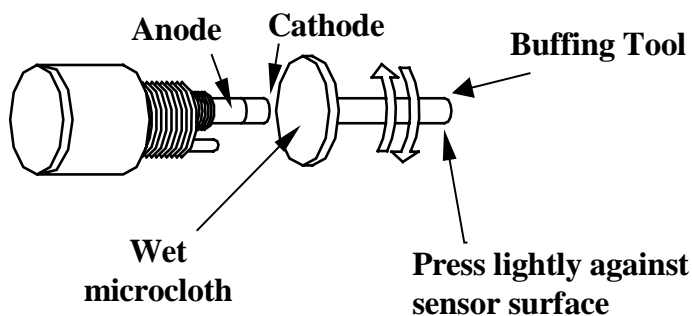

Figure 6
Anode Cleaning Procedures (See figure 6)
- ✓ Twist the buffing tool back and forth three times in opposite directions while lightly pressing the buffing tool against the sensor surface (see figure 6).